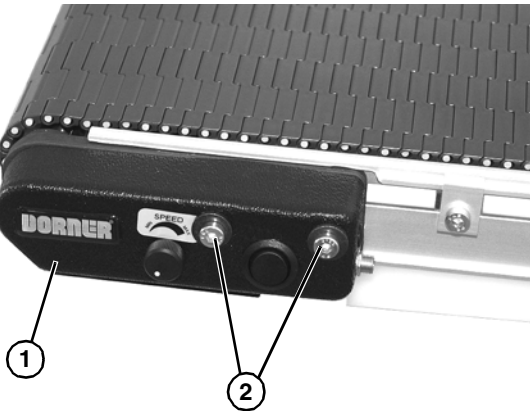

Figure 42
2. Remove inframe drive side cover (**Figure 42, item 1**) by removing two iDrive cover screws (**Figure 42, item 2**).